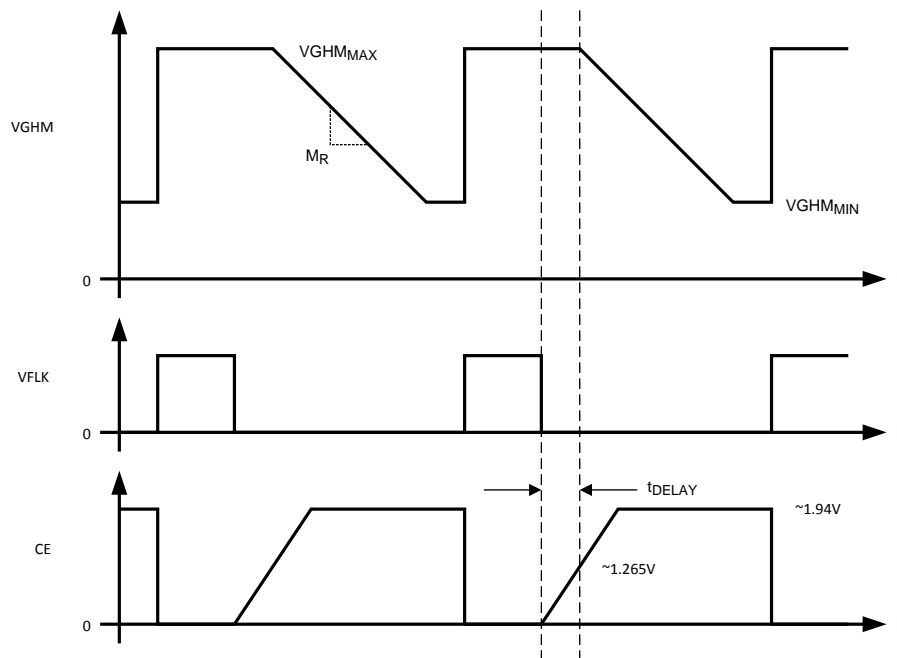
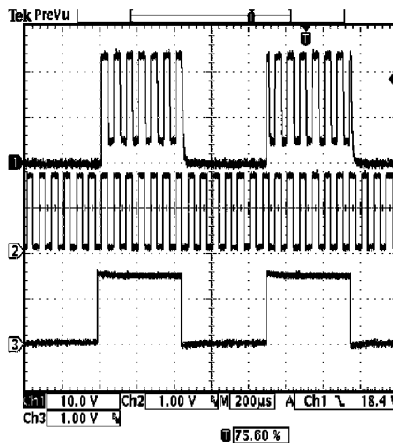

Figure 45.
Figure 46. Waveform
The Gate Pulse Modulation (GPM) block is designed to provide a modulated voltage to the gate driver circuitry of a TFT LCD display. Operation is best understood by referring to the GPM block diagram in the Block Diagrams section, the drawing in Figure 45 and the transient waveforms in Figure 46 and Figure 47.
When VDPM is high, typical waveforms for the GPM block can be seen in Figure 45. The pin VGH is typically driven by a 2x or 3x charge pump. In most cases, the 2x or 3x charge pump is a discrete solution driven from the SW pin and the output of the boost switching regulator. When VFLK is high, the PMOS switch P2 is turned on and the PMOS switch P3 is turned off. With P2 on, the VGHM pin is pulled to the same voltage applied to the VGH pin. This provides a high gate drive voltage, VGH_{MAX} , and can source current to the gate drive circuitry. When VFLK is high, NMOS switch N3 is on which discharges the capacitor CE.
When the voltage on CE reaches about 1.265V and the VFLK signal is low, the PMOS switch P2 will turn off and the PMOS switch P3 will turn on connecting resistor R3 to the VGHM pin through P3. This will discharge the voltage at VGHM at some rate determined by R3 creating a slope, M_R , as shown in Figure 45. The VGHM pin is no longer a current source, it is now sinking current from the gate drive circuitry.
Figure 46 and Figure 47 give typical transient waveforms for the GPM block. Waveform (1) is the VGHM pin, (2) is the VFLK and (3) is the VDPM. The output of the boost switching regulator is operating at 8.5V and there is a 3x discrete charge pump (~23.5V) supplying the VGH pin. In Figure 46 and Figure 47, the VGHM pin is driving a purely capacitive load, 4.7nF. The value of resistor R1 is 15k Ω , R2 is 1.1k Ω and R3 is 750 Ω . In both transient plots, there is no C_E delay capacitor.